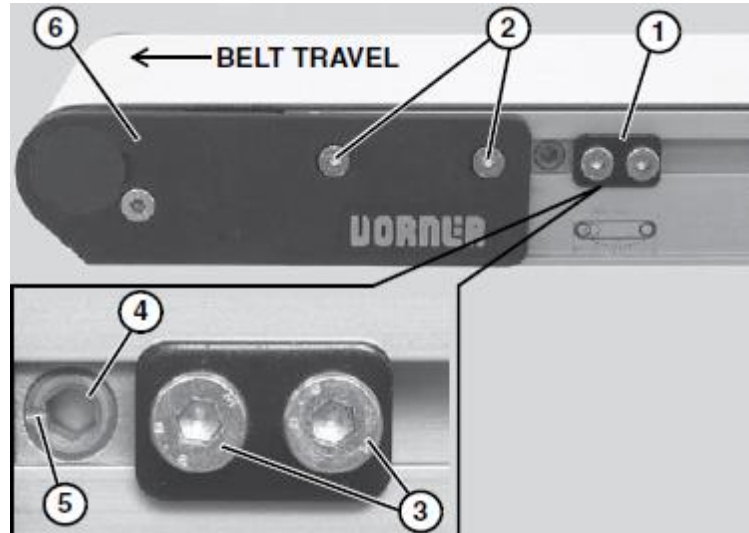

Figure 3-3
Non-V-guided belt conveyors are equipped with belt tracking cam assemblies (Figure 3-3, item 1) for belt tracking adjustment.
- Ensure head plate fastening screws (Figure 3-3, item 2) on both sides of conveyor are tightened.
- On both sides of conveyor, loosen two (2) cam fastening screws (Figure 3-3, item 3). Adjust cams (Figure 3-3, item 4) until indicator slots (Figure 29, item 5) are horizontal and facing end of conveyor. Then slide cam assemblies against head plates (Figure 3-3, item 6) and re-tighten cam fastening screws (Figure 29, item 3) to 60 in-lb. (7 Nm).
- On the side toward which the belt is tracking, loosen head plate fastening screws (Figure 3-3, item 2).
- With the conveyor running, use a 5 mm hex-key wrench to rotate the tracking cam (Figure 3-3, item 4) in small increments until the belt tracks in the center of the conveyor. Then while holding the cam in position, re-tighten the head plate fastening screws Figure 3-3, item 2) with a 4 mm hex-key wrench to 60 in-lb. (7 Nm).